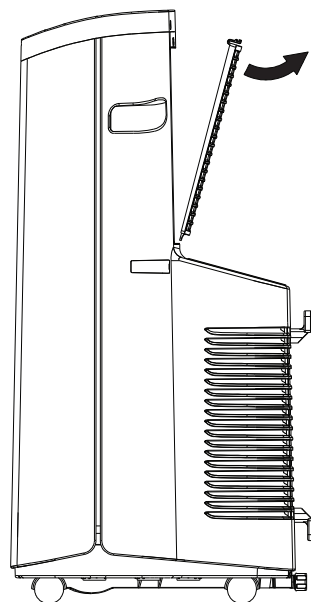

Figure 13
- 1. Remove the Filter:** Pull out the filter in the direction indicated in Figure 13.